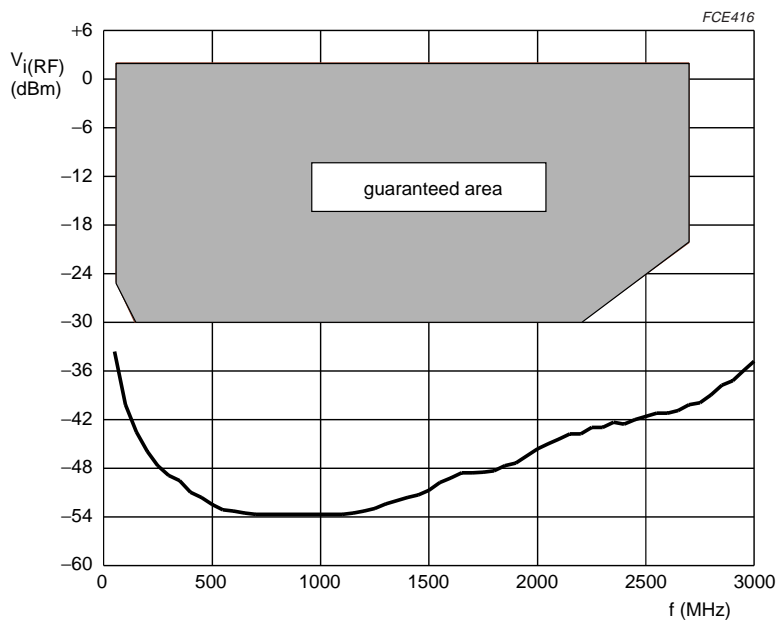

Fig.3 Sensitivity curve.
- Asymmetrical drive on pin RFA or RFB; see Fig.3.